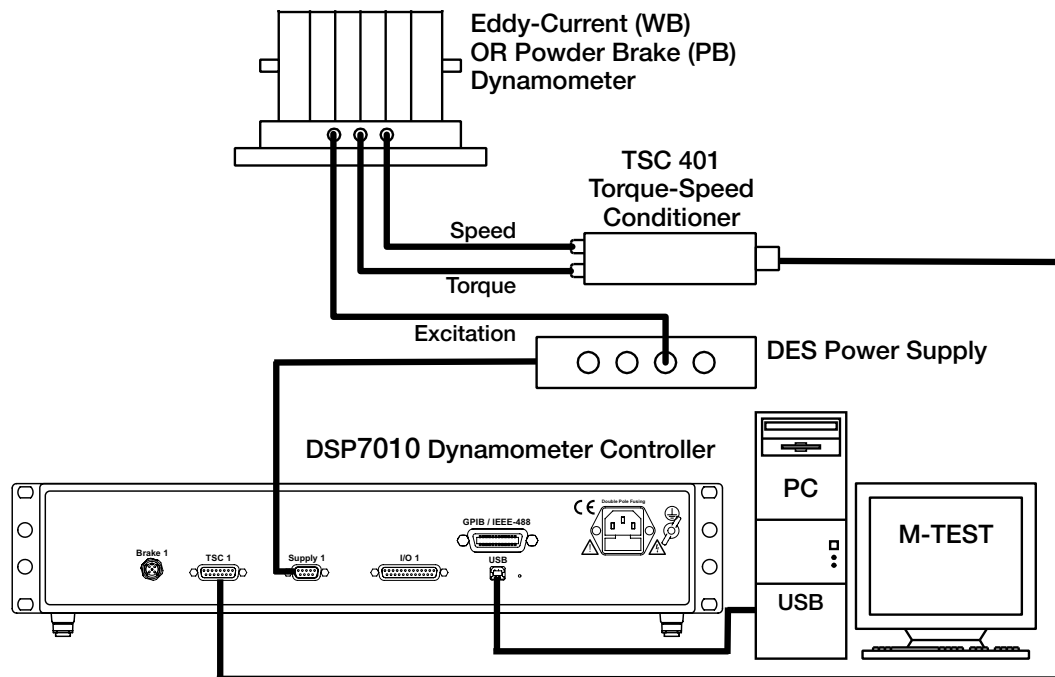

Fig.3-16 Eddy-Current or Powder Brake Dynamometer Setup
5. Press [SHIFT] to get to the TSC1 Eddy-Current Setup Menu. See Figure 3-16 TSC1 Eddy-Current Setup Menu.